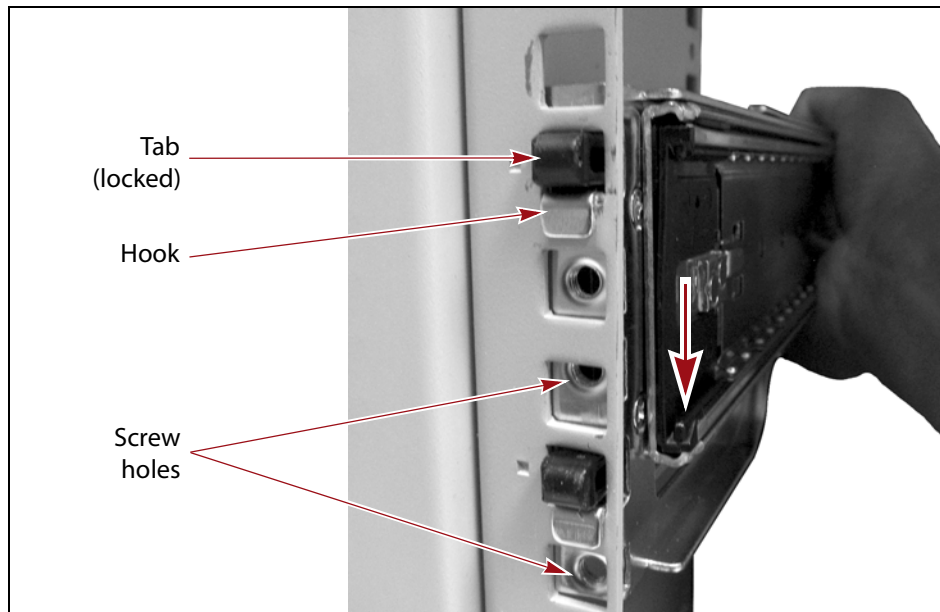

Figure 9 Press the rail down to lock it into place.
- a. Install two outer rail screws and washers in the holes above and below the bottom mounting hook in the front mounting bracket to secure the rail to the front post (see Figure 9).